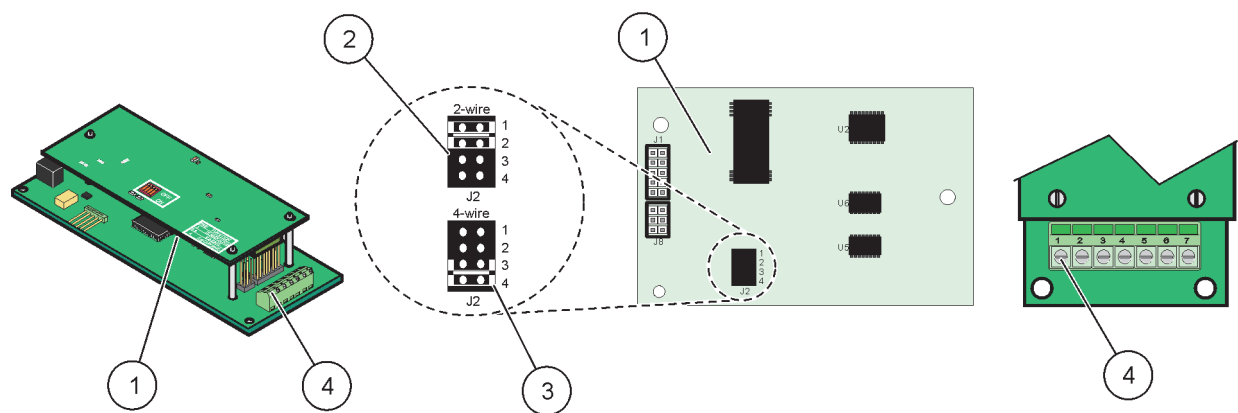

Figure 24 Modbus RS485 (YAB021) card connections
4. Feed the cable through the base of the module and properly prepare and insert each wire into the terminal according to Figure 24 and Table 7.